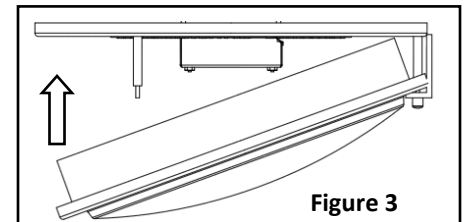

Figure 3
- B. Place diffuser (2) over ceiling pan. Install trim ring (4) and brackets (3) using thumb nuts (5). Note – to enable single-person mounting, install trim ring with one bracket and thumb nut, then insert diffuser and install remaining brackets (**Figure 3**)